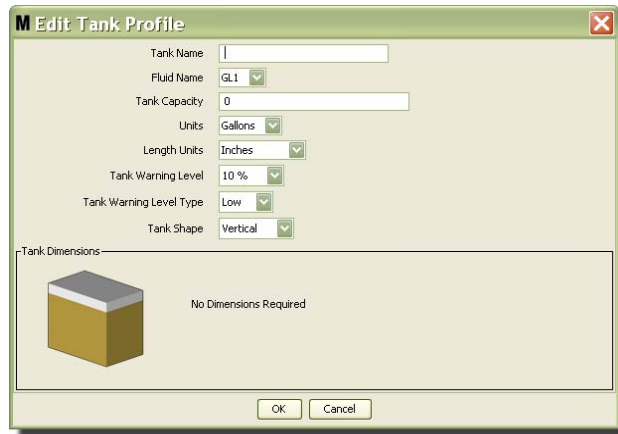

FIG. 117
3. The Edit Tank Profile screen shown in FIG. 117 displays.